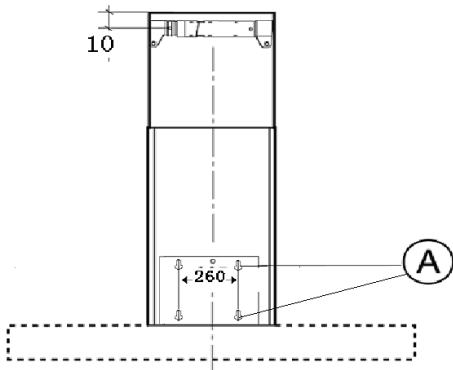

Fig 1
1. Drill 4 holes in the wall respecting the distances indicated in Fig.1.
3. Adjust the width of the chimney mounting bracket (Fig.2) and fix the chimney mounting bracket to the wall in such a way that it is in line with your hood and respecting the distance from the ceiling indicated in Fig.1.